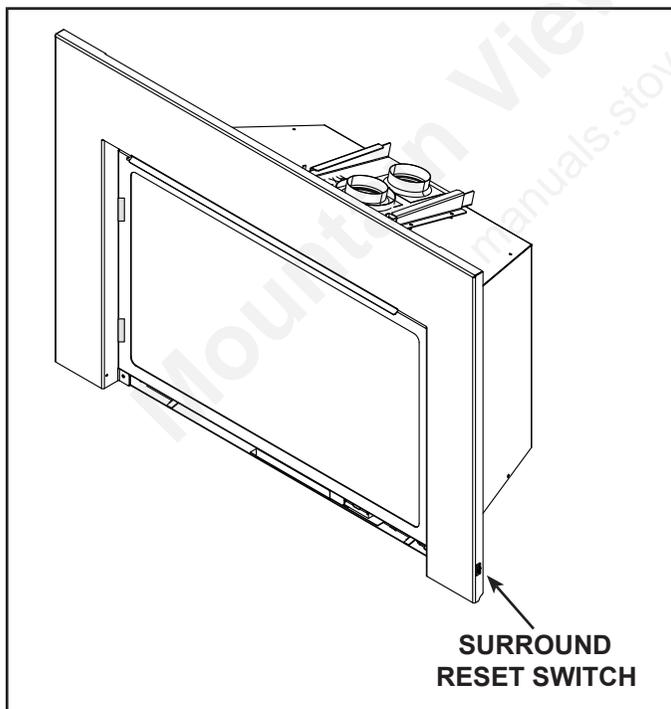

Figure 3.9 Surround Reset Switch
2. Toggle surround manual reset switch position to “OFF”. See Figure 3.9. Check to make sure the ignition module switch is **NOT** in the “ON” position.
- Toggle surround manual reset switch position to “ON”. See Figure 3.9. Check to make sure ignition module switch is in the “REMOTE” position.
- Toggle surround manual reset switch position to “ON”. See Figure 3.9.
- Toggle surround manual reset switch position to “OFF”. See Figure 3.9.
- Toggle the appliance reset switch to the off position . See Figure 3.9 for reset switch location.